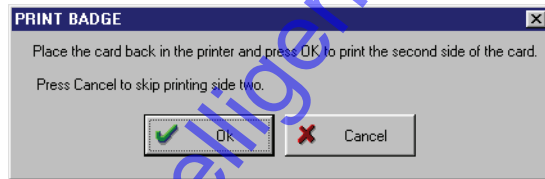

Figure 9-37 Two-Side Print Badge Window
6. When you are ready to print the badge, click on the  button. After a several second delay, the badge is printed. If you are printing a double-sided badge on a single-sided printer, the first side will be automatically sent to the printer and the Two-Side Print Badge Window will appear (see Figure 9-37).